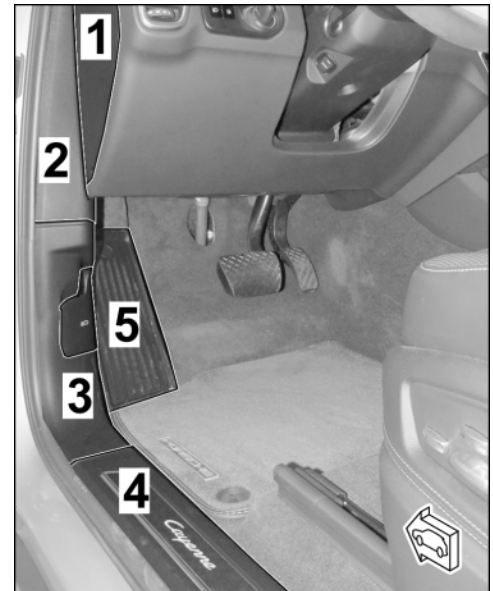

Figure 4 (LHD vehicle)
1.4 Expose A-pillar area (at left) (⇒ *Figure 4 (LHD vehicle)*)